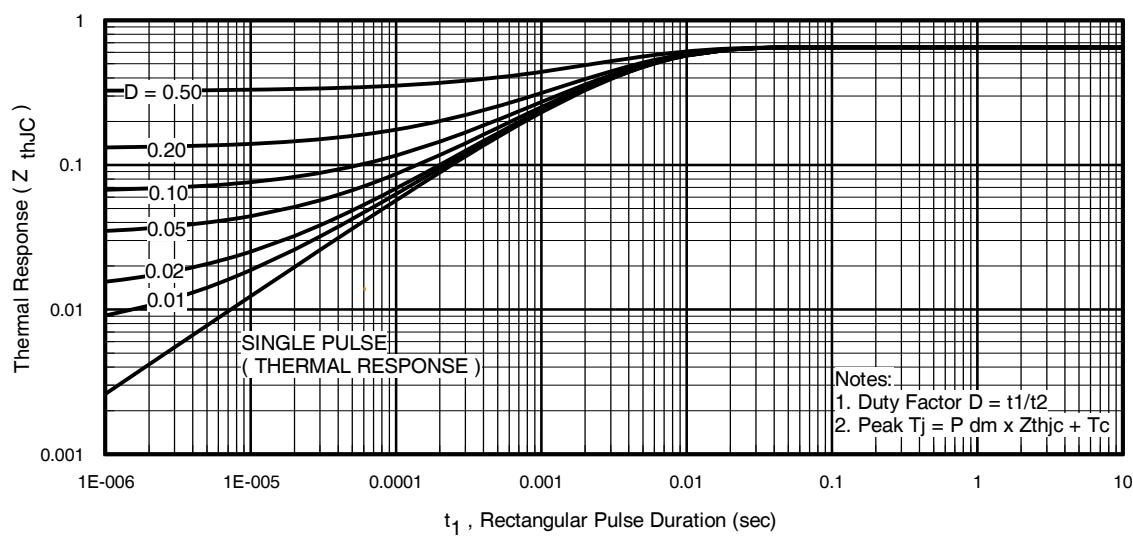
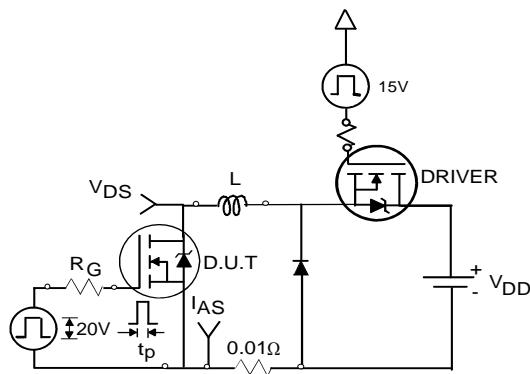

Fig 11. Maximum Effective Transient Thermal Impedance, Junction-to-Case
Fig 12a. Unclamped Inductive Test Circuit
- ① Repetitive rating; pulse width limited by max. junction temperature. (See fig. 11)
- ② Limited by $T_{J\max}$, starting $T_J = 25^\circ\text{C}$, $L = 0.10\text{mH}$, $R_G = 25\Omega$, $I_{AS} = 75\text{A}$, $V_{GS} = 10\text{V}$. Part not recommended for use above this value.
- ③ Pulse width $\leq 1.0\text{ms}$; duty cycle $\leq 2\%$.
- ④ $C_{oss\ eff.}$ is a fixed capacitance that gives the same charging time as C_{oss} while V_{DS} is rising from 0 to 80% V_{DSS} .
- ⑤ Limited by $T_{J\max}$, see Fig.12a, 12b, 15, 16 for typical repetitive avalanche performance.
- ⑥ This value determined from sample failure population, starting $T_J = 25^\circ\text{C}$, $L = 0.10\text{mH}$, $R_G = 25\Omega$, $I_{AS} = 75\text{A}$, $V_{GS} = 10\text{V}$.
- ⑦ This is applied to D²Pak When mounted on 1" square PCB (FR-4 or G-10 Material). For recommended footprint and soldering techniques refer to application note #AN-994
3. Equation below based on circuit and waveforms shown in Figures 12a, 12b.